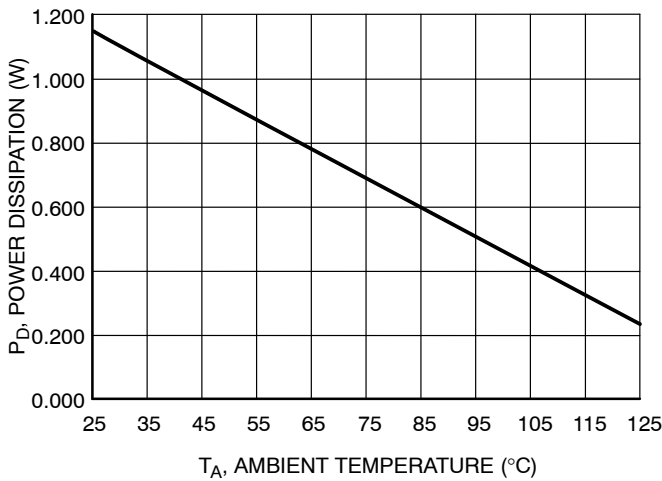

Figure 3. Total Power Dissipation (P_D) vs. Ambient Temperature (T_A)
| Total Power Dissipation (Note 2) Derating above 25°C (Figure 3) | P_D | 1.13 9.0 | W mW/ $^\circ\text{C}$ |
9. If $P_{D_total} > 1.13 \text{ W}$ (or derated value per Figure 3), then select the most appropriate recourse and repeat steps 1 through 8: